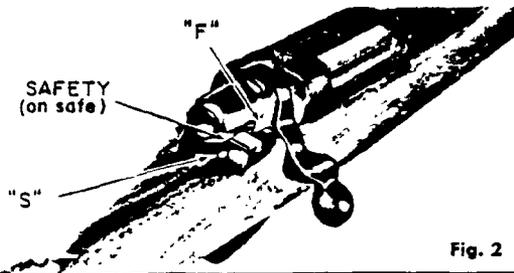

Fig. 2
**SAFETY (Fig. 2)** — Close bolt and rotate safety to rear stop position marked "S" on receiver. Side lever type safety is located at right rear of receiver. With safety in rear stop (ON SAFE) position; trigger cannot be pulled to fire rifle and bolt handle cannot be raised to unlock and open action.